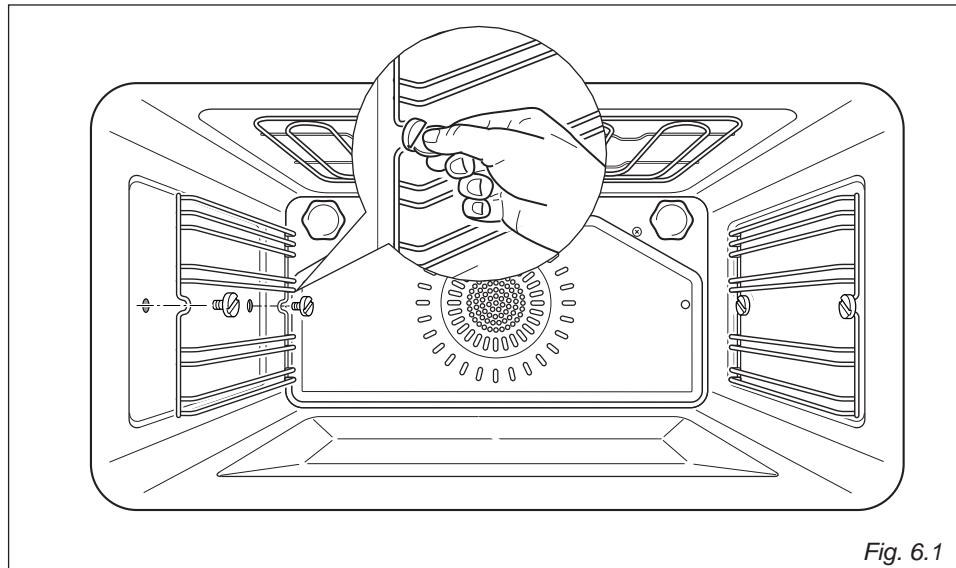

Fig. 6.1
- Assemble the wire racks to the oven walls using the 2 screws (fig. 6.1).